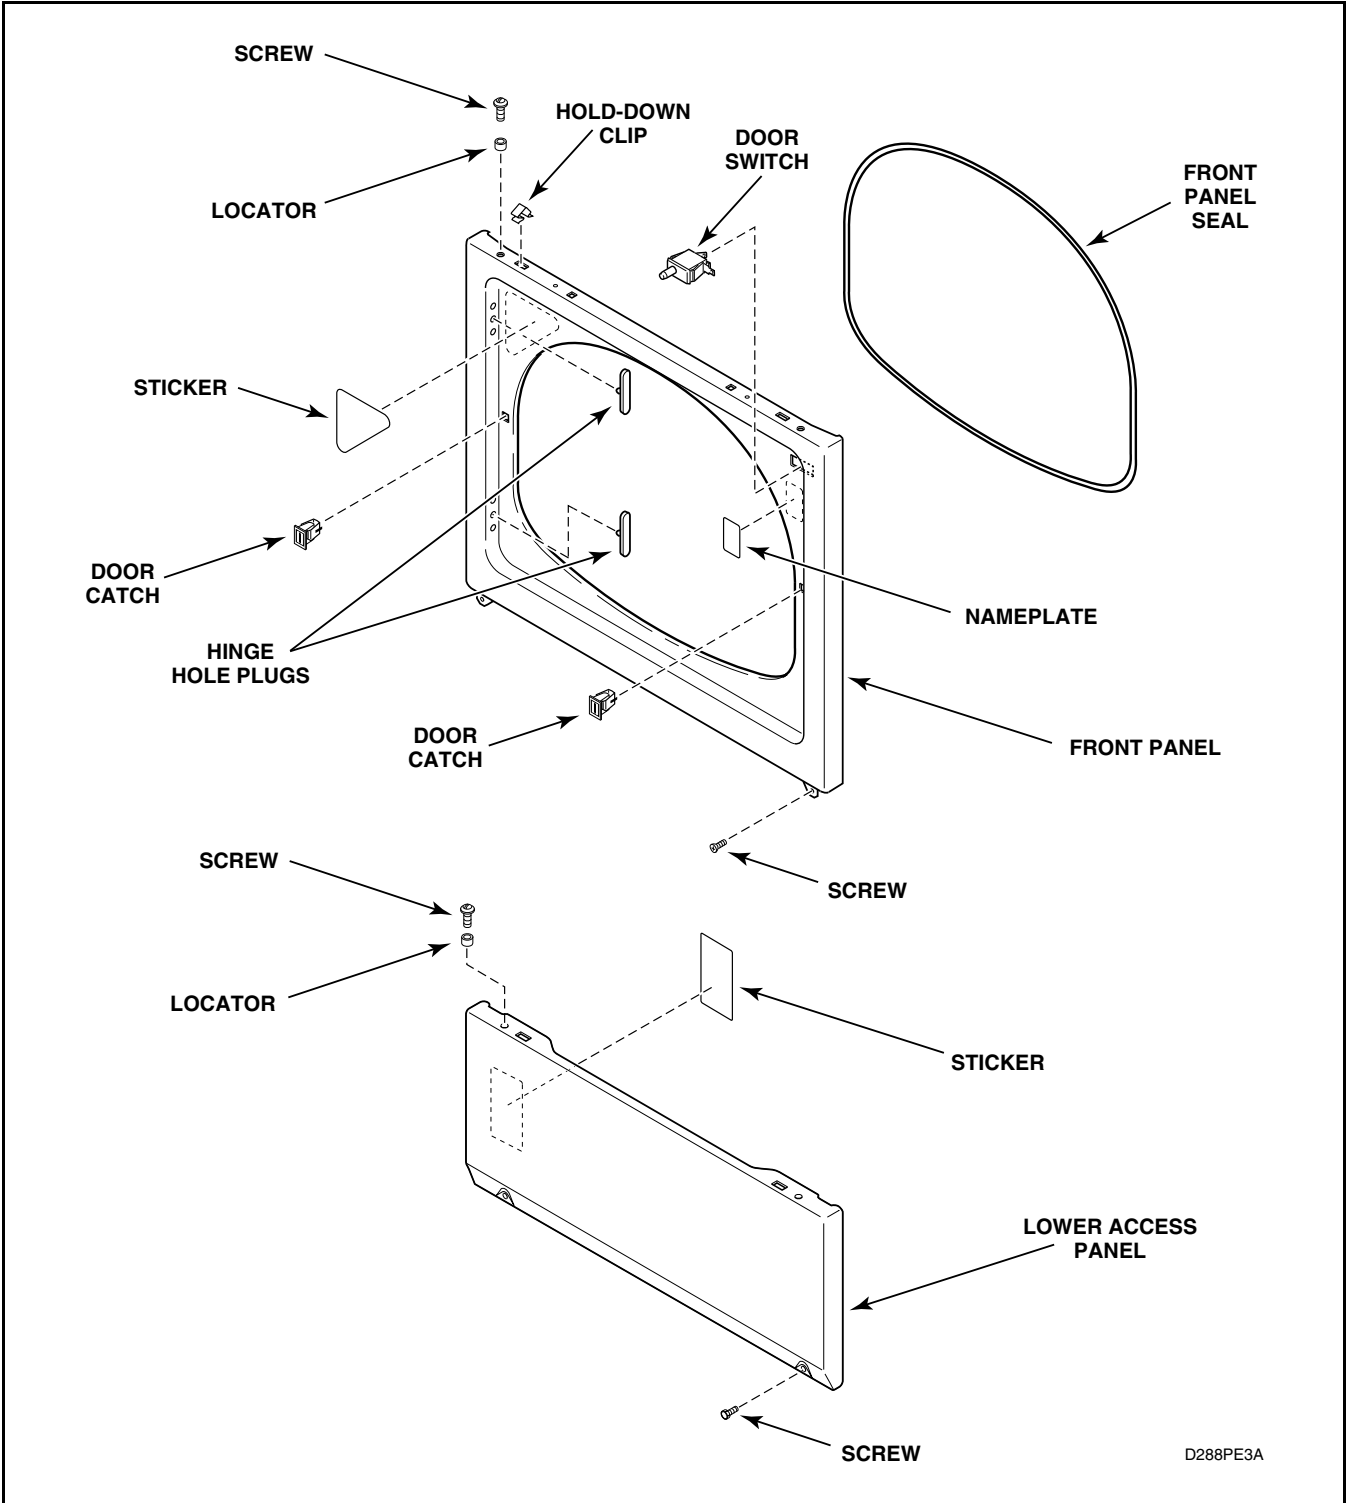
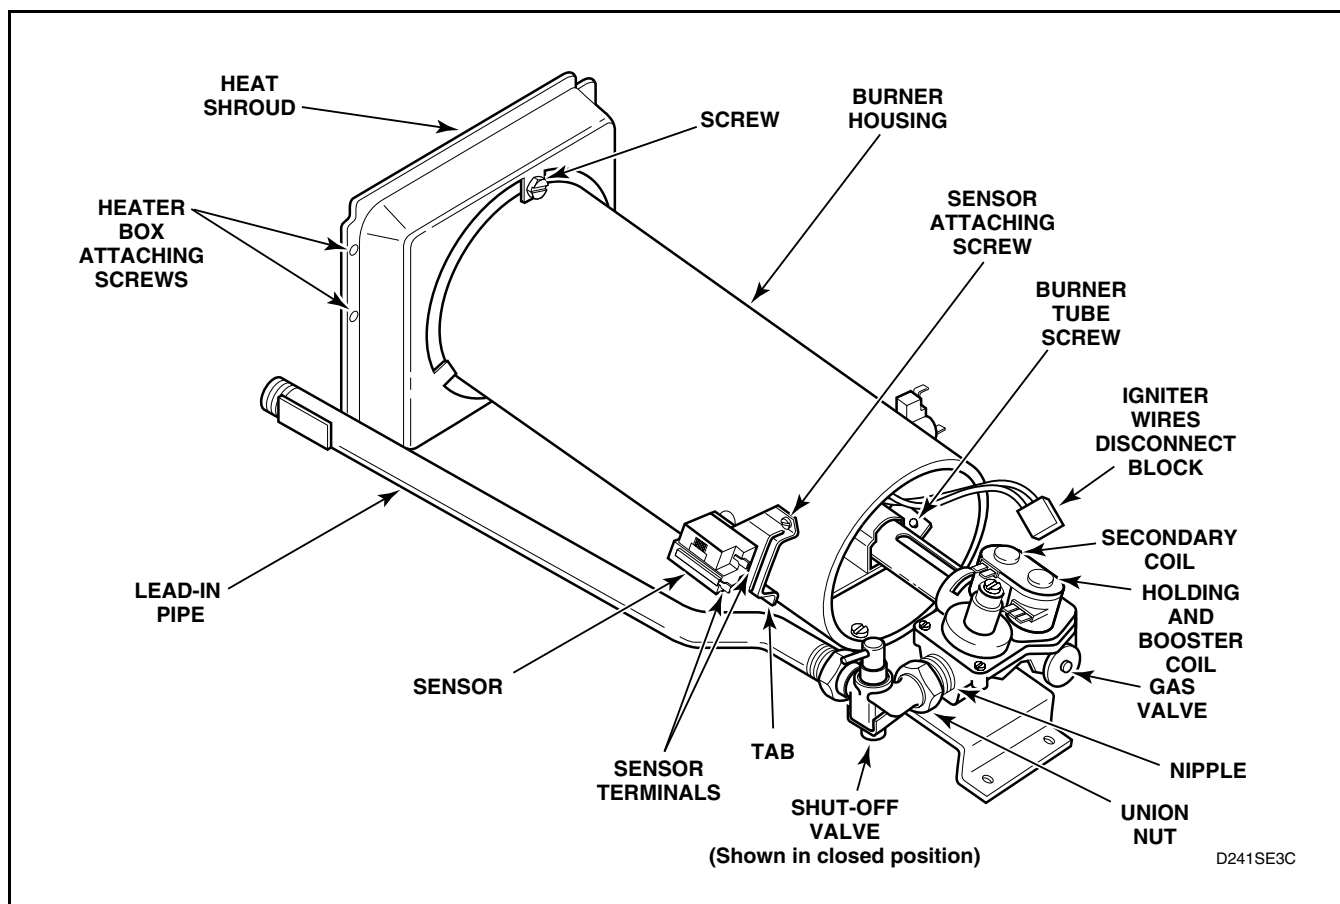
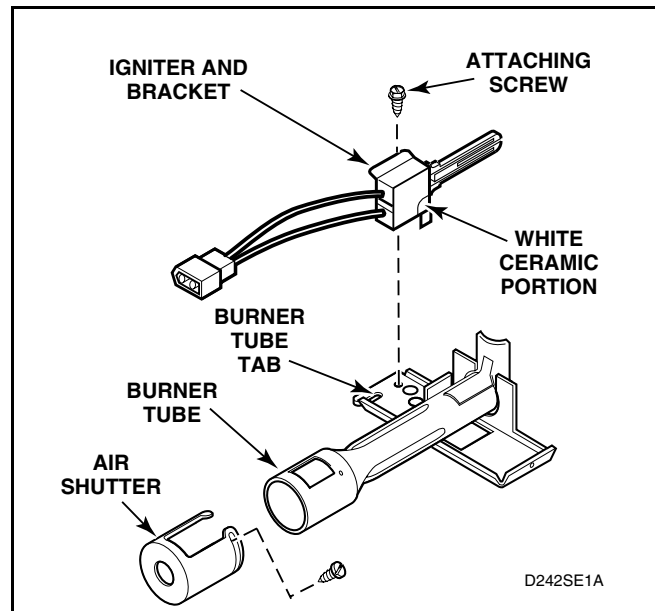

Figure 21
Figure 23
Figure 24
Refer to *Figure 21*
- a. While supporting the lower access panel, remove two screws from bottom edge of lower access panel. Refer to *Figure 21*.
- b. Gently lower the access panel to disengage locators from bottom edge of front panel. Refer to *Figure 21*.
- (1) While supporting the lower access panel, remove two screws from bottom edge of lower access panel. Refer to *Figure 21*.
- (2) Gently lower the access panel to disengage locators from bottom edge of front panel.
- (3) Close main gas shut-off valve, disconnect igniter wires at disconnect blocks, sensor wires from sensor terminals, and wires from gas valve coils at the quick disconnect blocks. Refer to *Figure 23*.
- (4) Disconnect gas shut-off valve from gas valve at the union nut. Refer to *Figure 23*.
- (5) Remove three screws holding valve and mounting bracket to base. Refer to *Figure 23*.
- (6) Lift gas valve and mounting bracket from base. Refer to *Figure 23*.
- (2) Gently move burner tube toward rear of dryer to disengage tab from slot on left side of burner housing. Refer to *Figure 23*.
- (3) Carefully rotate burner tube and igniter **counterclockwise** so tab is at 8 o'clock position.
- (4) Move air shutter end of burner tube slightly to right and **CAREFULLY** remove burner tube and igniter assembly out through front of dryer.
- (5) Remove screw holding igniter and bracket to burner tube and remove igniter and bracket. Refer to *Figure 24*.
- (3) Remove wires from sensor terminals. Refer to *Figure 23*.
- (4) Remove screw holding sensor to burner housing. Refer to *Figure 23*.
- c. Disconnect igniter wires at disconnect blocks, sensor wires from sensor terminals, and wires from gas valve coils at the quick disconnect blocks. Refer to *Figure 23*.
- e. Gently move burner tube toward rear of dryer to disengage tab from slot on left side of burner housing. Refer to *Figure 23*.
- Remove screw holding burner housing to heat shroud. Refer to *Figure 23*.
- While supporting the lower access panel, remove two screws from bottom edge of lower access panel. Refer to *Figure 21*.